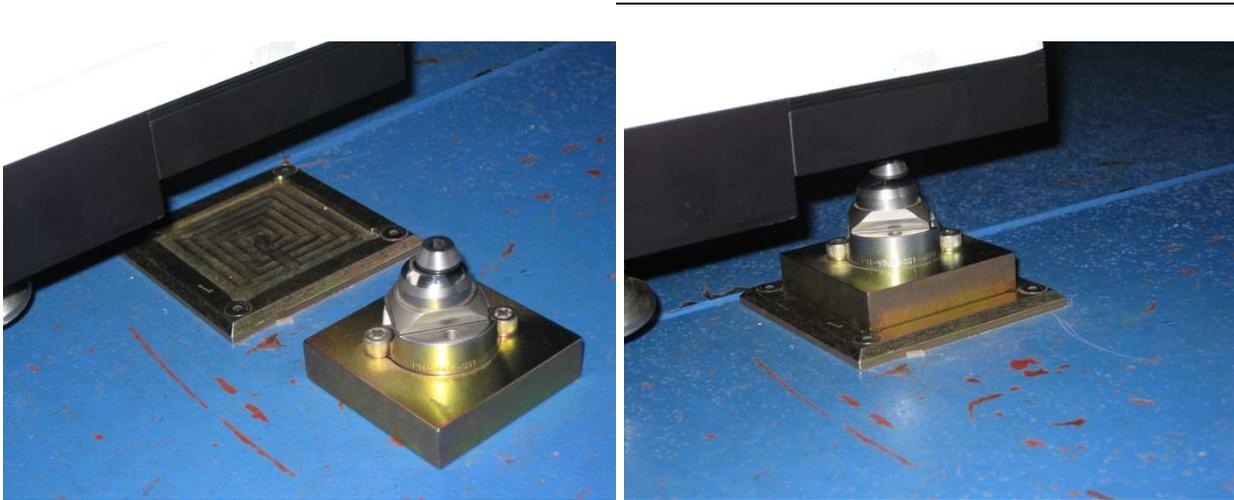

Figure 3: The spherolinder base plate and assembly are shown in the left photo. The assembly has been placed in the base plate in the right photo.
30. Locate the loose spherolinder blocks (Figure 3 **Error! Reference source not found.**) in the wooden drawer. Place these in their respective baseplates attached to the nasmyth platform. Each baseplate and each spherolinder assembly is stamped with a number at one corner. The numbers should be matched such that each stamped corner is appropriately aligned.